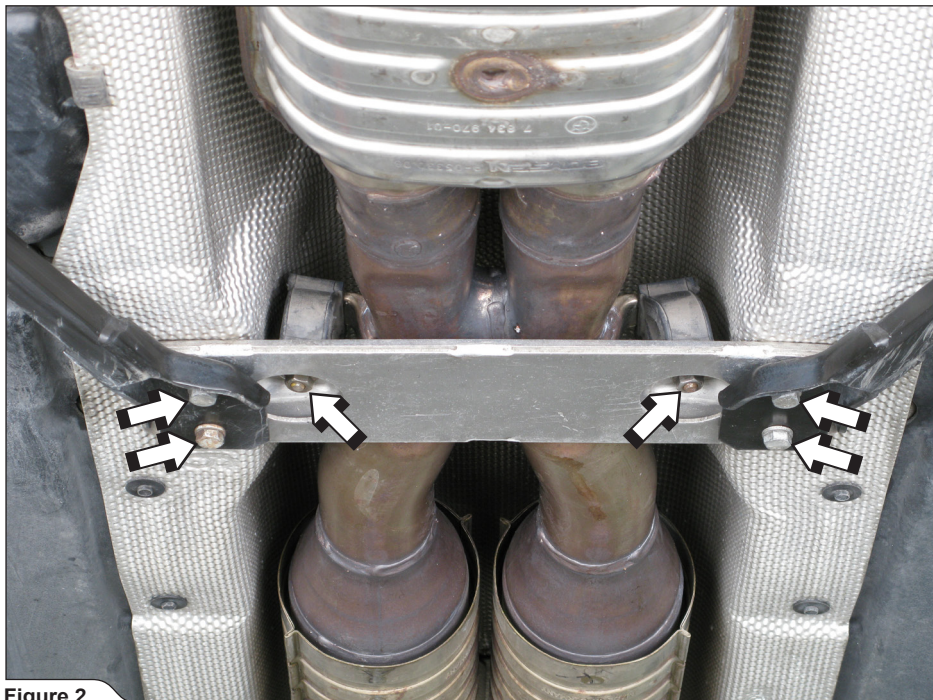

Figure 2
2. **For Slip-On and Evolution:** unscrew the marked bolts and nuts (**Figure 2**). Remove the aluminium exhaust bracket off the vehicle.